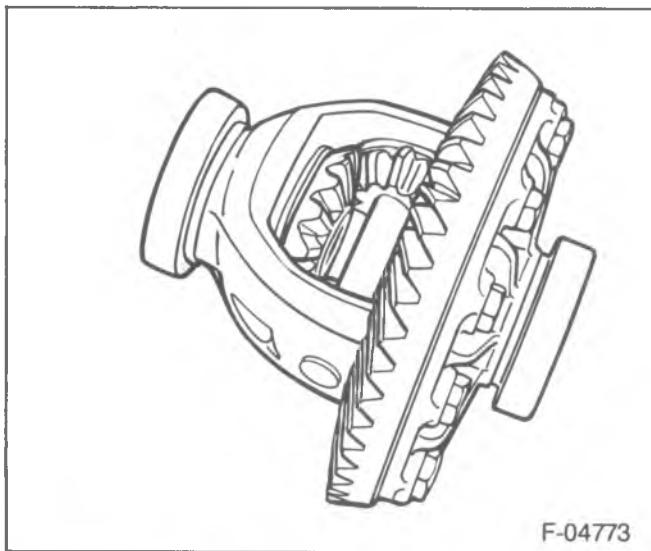

Figure 102—Differential with the Master Bearings
9. Master differential bearings D-117 (Miller Tools) to the differential (figure 102).